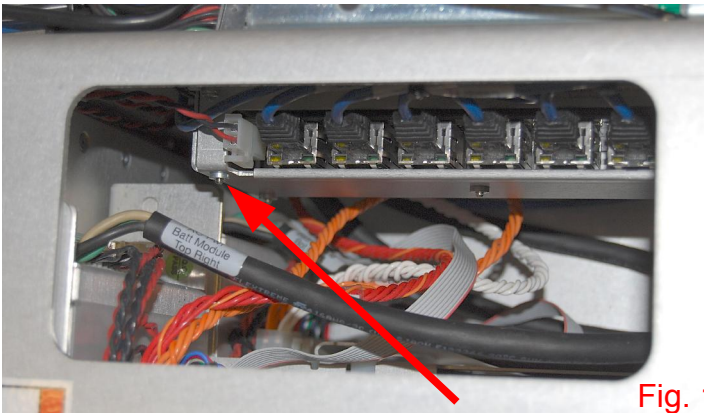

Fig. 11
11. Reinsert the battery modules into the base of the robot being careful to not pinch any of the wires (Fig. 11, 12)